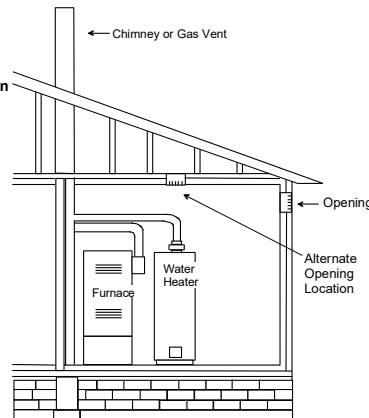

**Figure A.9.3.3.1(2) All Combustion Air From Outdoors through Horizontal Ducts.**
**9.3.3.2\* One Permanent Opening Method.** One permanent openings, commencing within 12 in. (300 mm) of the top of the enclosure, shall be provided. The appliance shall have clearances of at least 1 in. (25 mm) from the sides and back and 6 in. (150 mm) from the front of the appliance. The opening shall directly communicate with the outdoors or shall communicate through a vertical or horizontal duct to the outdoors or spaces that freely communicate with the outdoors (see Figure A.9.3.3.2) and shall have a minimum free area of the following: